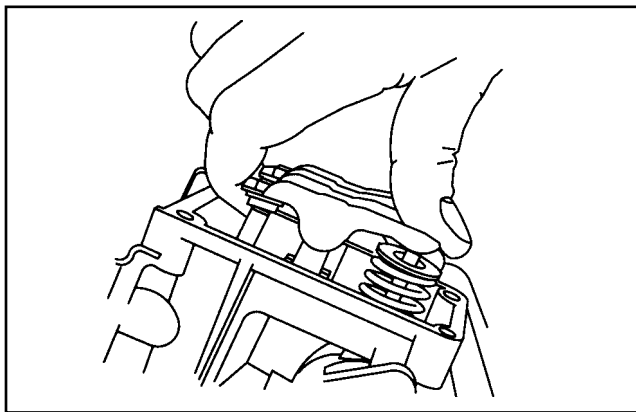

Fig. 25 - Install Push Rods
4. Compress valve springs and insert push rods into recess in rocker arm adjustment screws, Fig. 25.